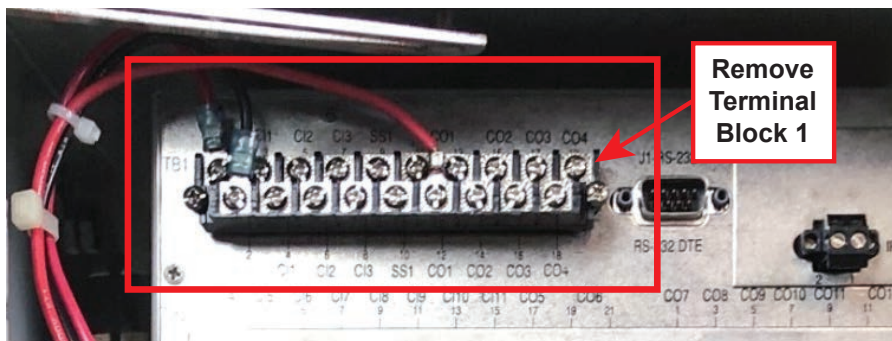

Figure 10 Eaton Cooper Form 6 Terminal Block 1
1. Disconnect Terminal Block 1 by loosening the two screws on the side of the terminal block and then removing the terminal block from the back of the Eaton Cooper Form 6 control (Figure 10). This terminal block and corresponding wires are not used in the M-2406 Adapter Chassis.